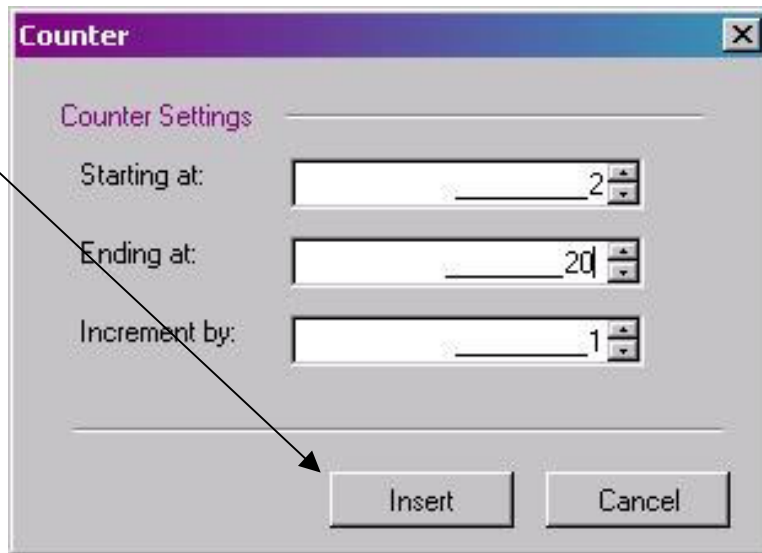

Figure 3.8.4: Inserting the Sequential Counter
3. Click on the insert  button to insert the counter onto the label (see Figure 3.8.4).